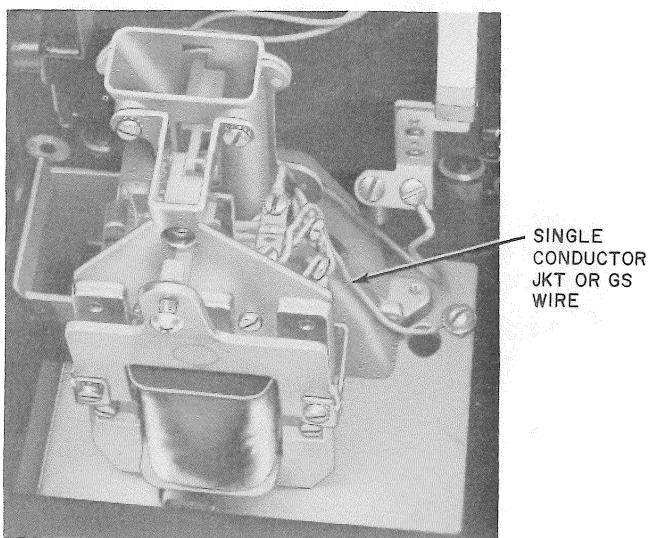

Fig. 18—Method of Grounding Coin Collector Housing Assembly, Open Type Installation
- Connect JKT lead or GS insulated wire as shown in Fig. 18.